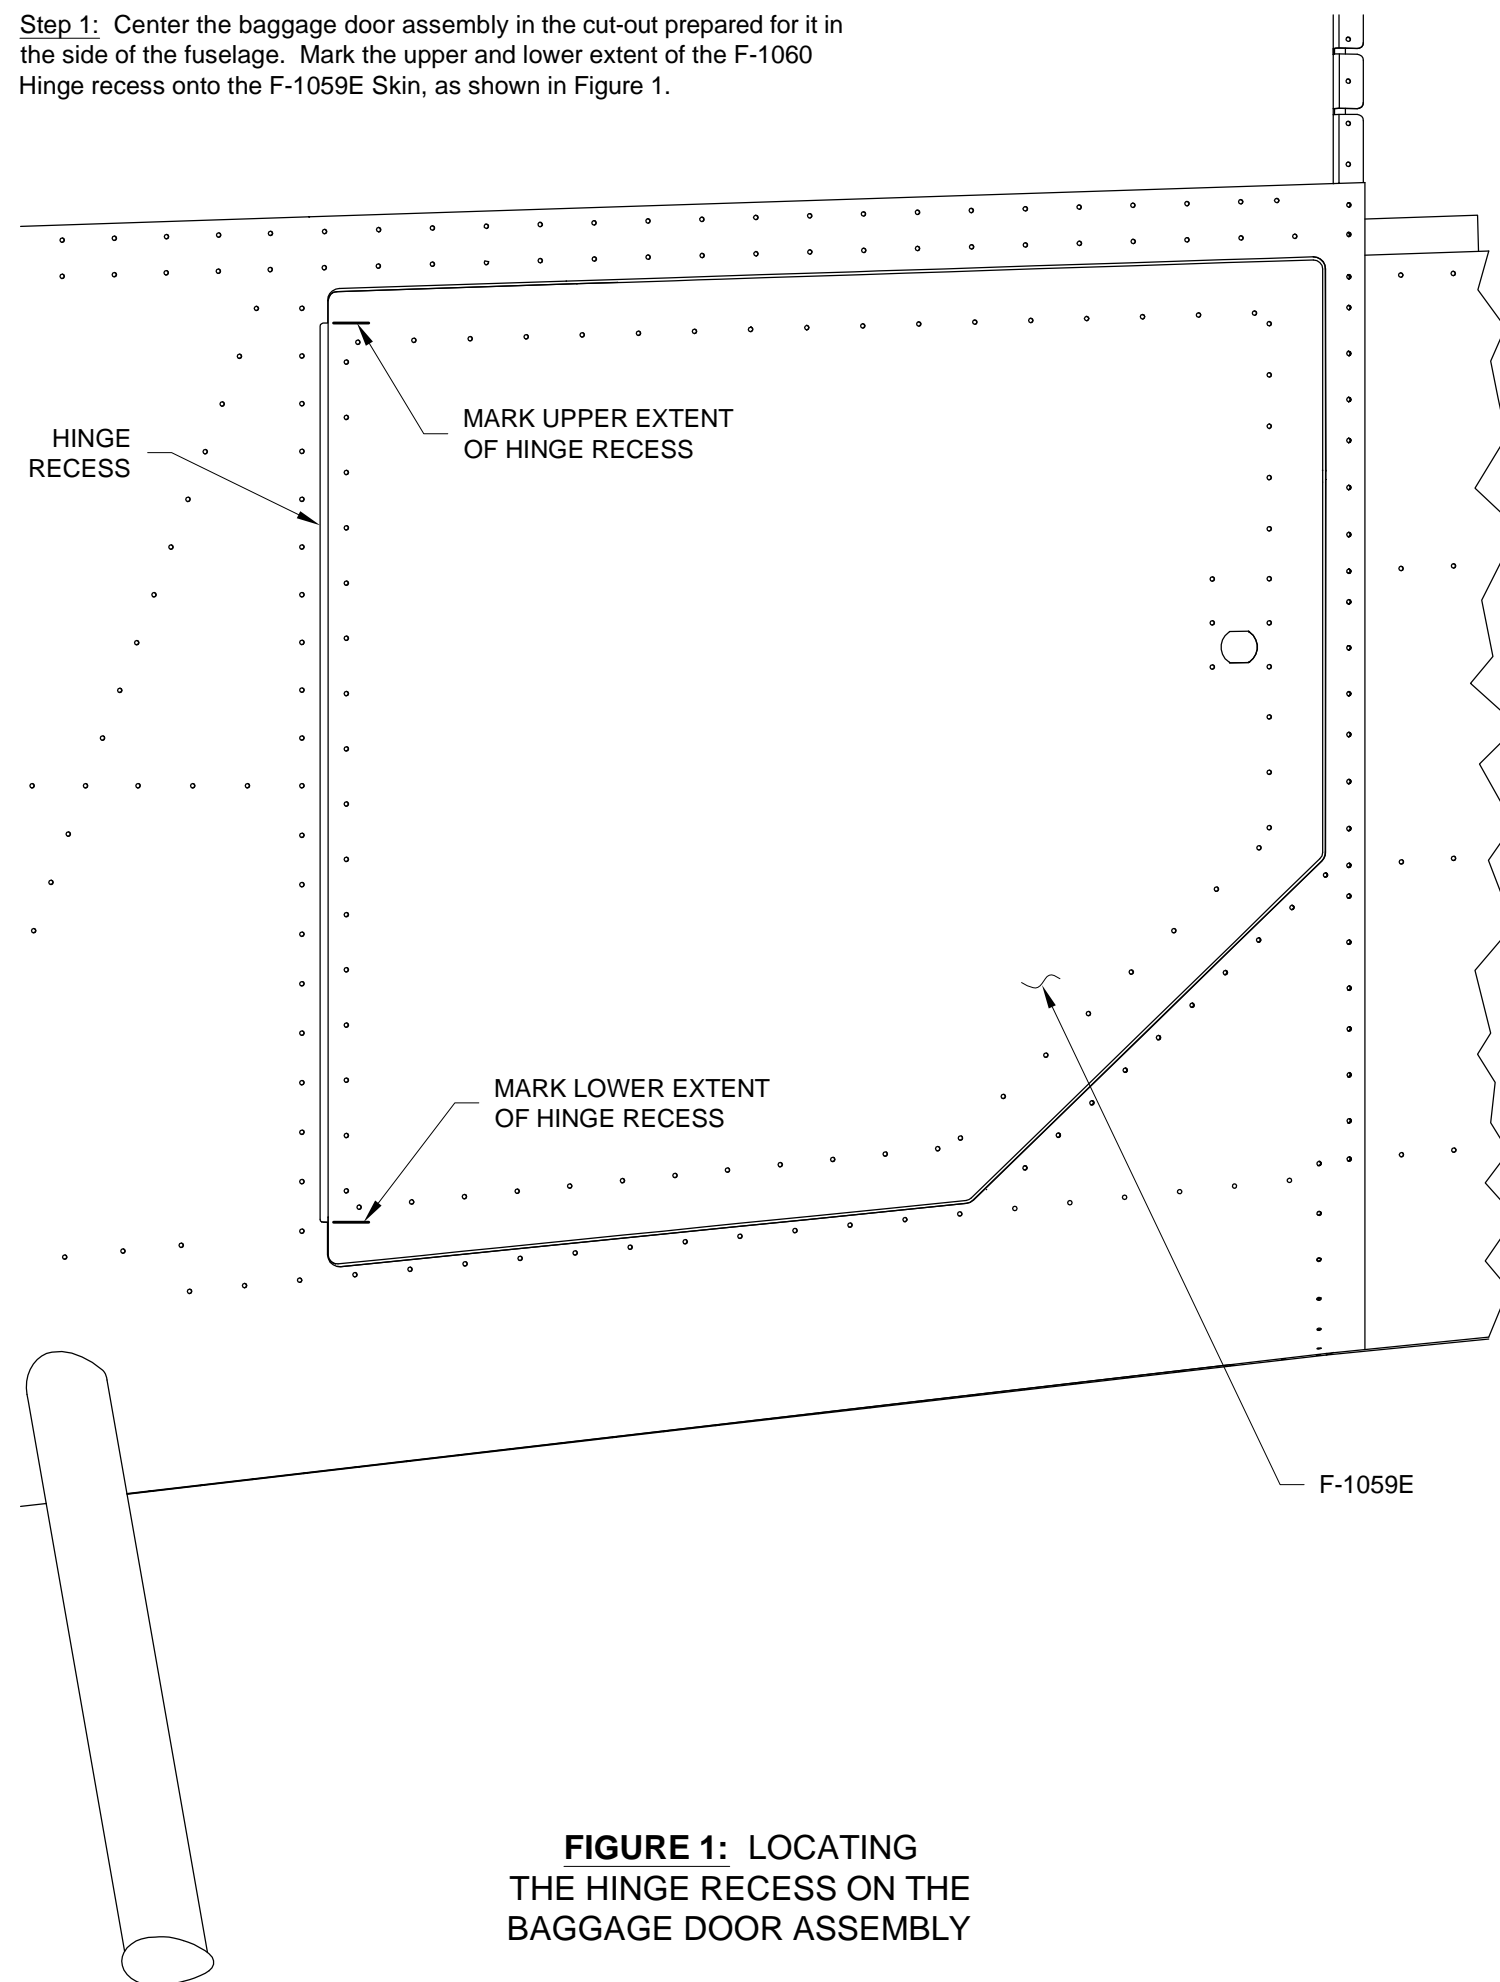

FIGURE 1: LOCATING THE HINGE RECESS ON THE BAGGAGE DOOR ASSEMBLY
Step 1: Center the baggage door assembly in the cut-out prepared for it in the side of the fuselage. Mark the upper and lower extent of the F-1060 Hinge recess onto the F-1059E Skin, as shown in Figure 1.